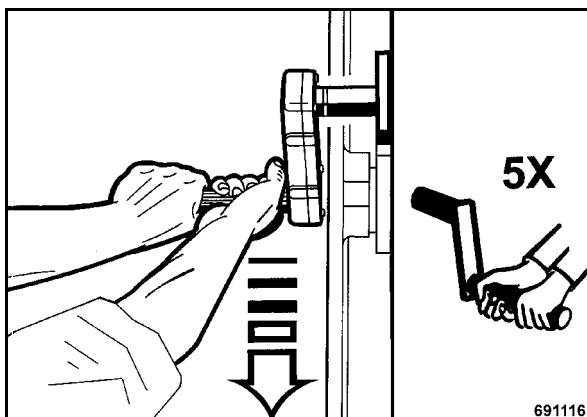

Fig. 28
- Take a correct position to the machine (Fig. 28). Hold the crank handle properly.